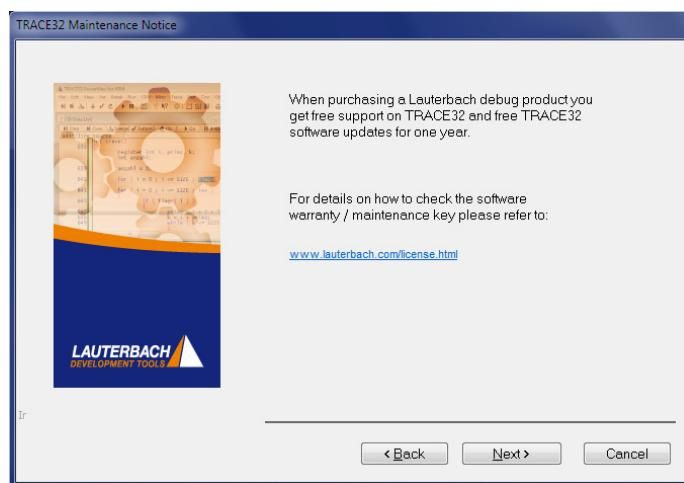

Figure 5.26: **Maintenance Notice** page
6. On the **Maintenance Notice** page and click **Next** (see Figure 5.26 on page 35).